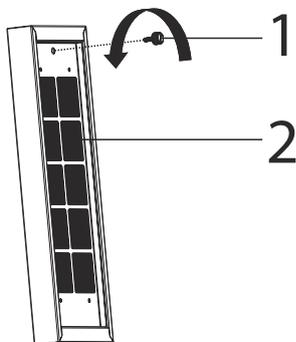

Fig. 7
2. ➤ Remove the connection screw of the active carbon filter (Fig. 7/1) by turning in the direction of the arrow.